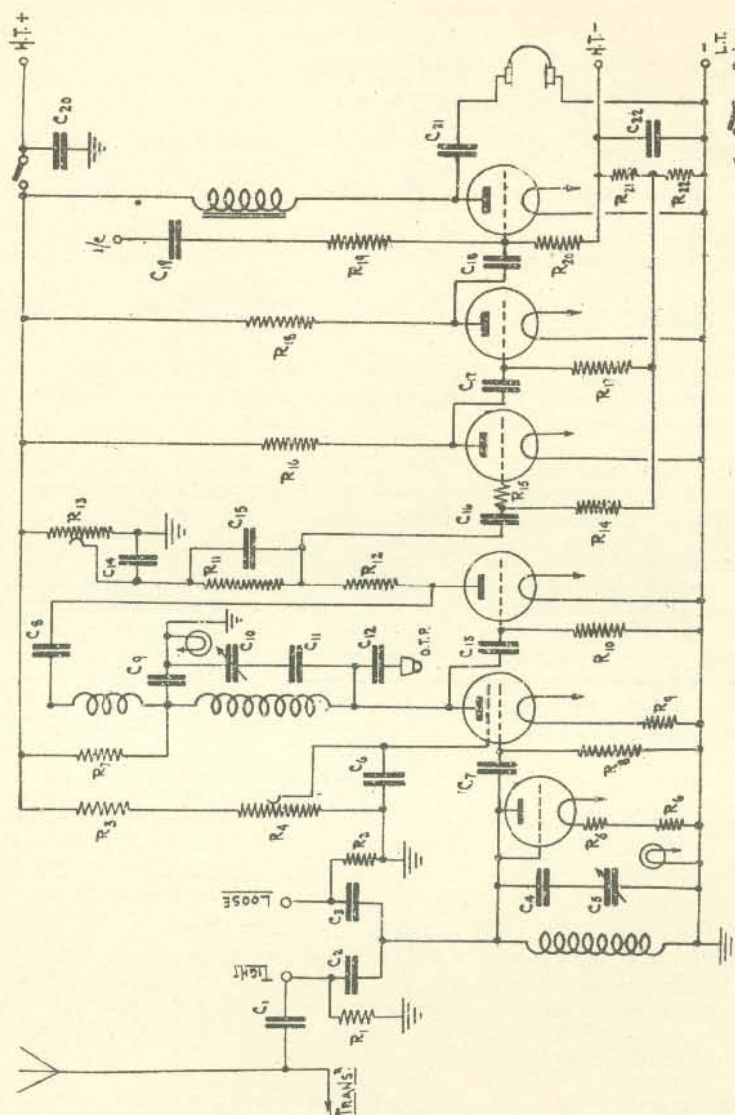
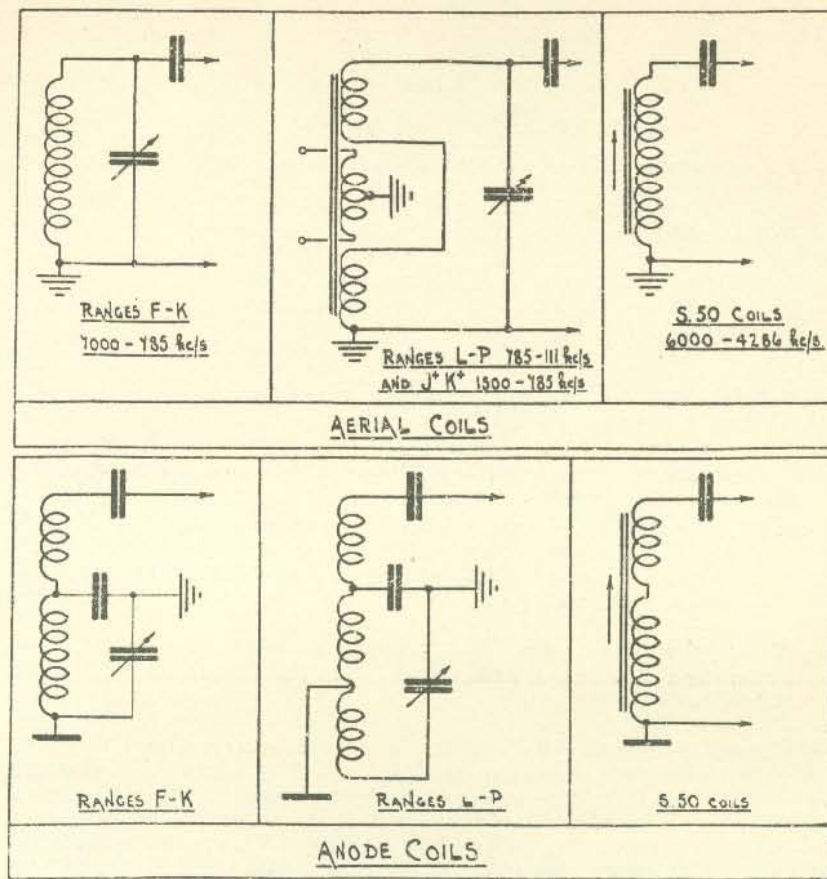
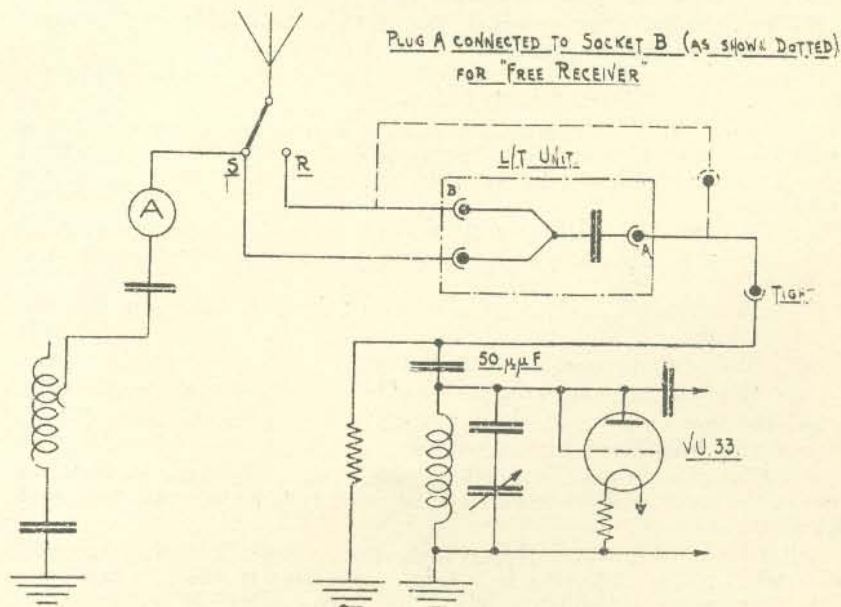

Fig. 67.—Receiver R.1082.
FIG. 68—Coils for R.1082 (ranges A-E (15-7 mc/s) shown in Fig. 67).
FIG. 69.—"Listening through" circuits (R.1082-T.1083).
6. Circuit (see fig. 67).—Circuit changes are effected by plug-in coils in aerial and anode circuits (fig. 68). The “limiter” valve is a triode wired to operate as a diode, shunted across the input circuit and biased slightly negative. Because of this bias it will have no effect on normal signals, but when using “listening through” arrangement (fig. 69) (i.e. when T.1083 and R.1082 are coupled to the same aerial) it prevents damage to the R.F. valve or circuits from the very large input from the transmitter. When the transmitter key is pressed, large voltages start to build up across the R.1082 aerial coil. The limiter valve becomes conductive as soon as these voltages exceed its fixed bias, and it shunts the input circuit.
(vii) Another external component is the high voltage "listening-through" condenser (fig. 69). The plug and socket connection to the *L.T.* condenser permits either "listening-through" or "free receiver" operations. "Listening-through" (possible when transmitter and receiver use the same